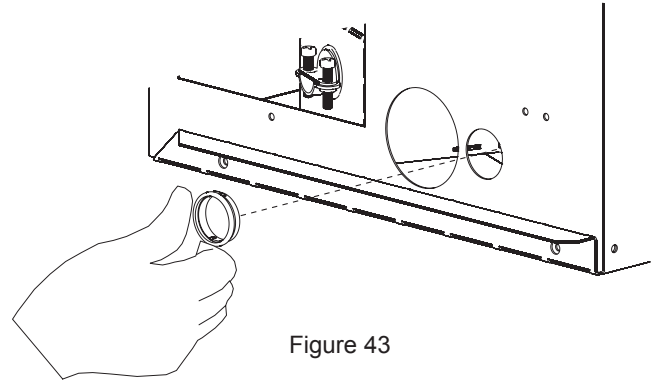

Figure 43
5. Route the yellow LED wire harness, grey remote receiver harness, and red/black battery backup harness through the bushings to the wall. Mount controls and connect. See Figure 43.